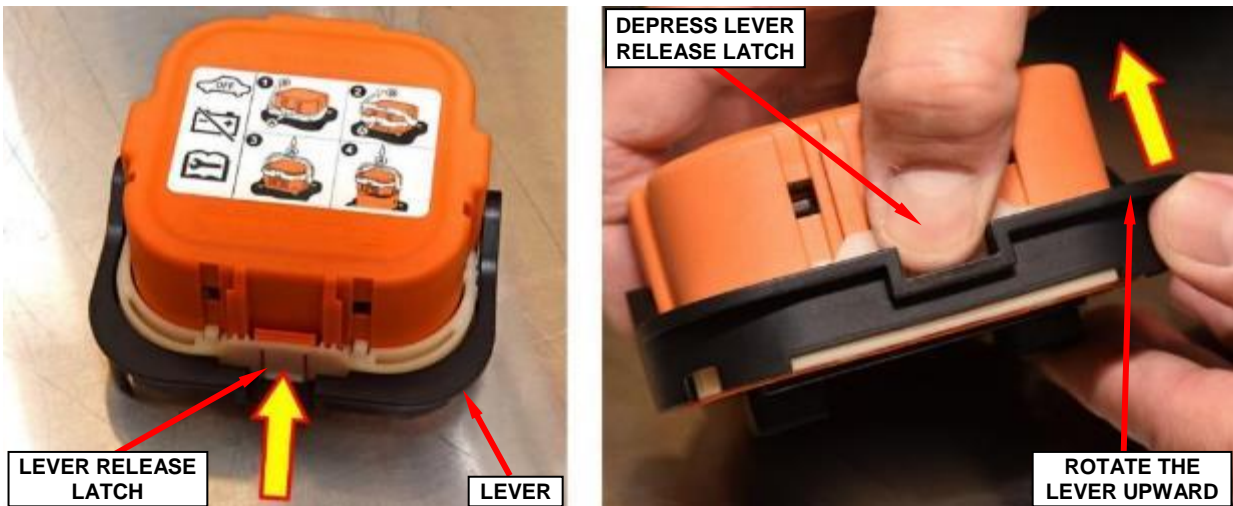

Figure 7 – High-Voltage Manual Service Disconnect First Stage Latch Release (High-Voltage Manual Service Disconnect Removed from Vehicle for Visual Clarity)
- Depress the lever release latch firmly. With the latch fully depressed, rotate the lever upward. The lever will stop at the 45° position (Figure 7).